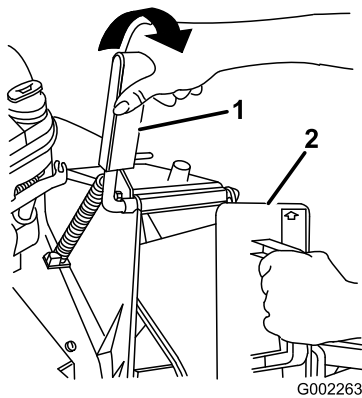

Figure 5
- Open the discharge door by pulling the handle rearward (Figure 5). Hold the discharge door handle to prevent the spring-loaded door from closing while you insert the plug.
2. Since the plug is slightly wider than the discharge tunnel opening, rotate the plug clockwise slightly while inserting it (Figure 5).